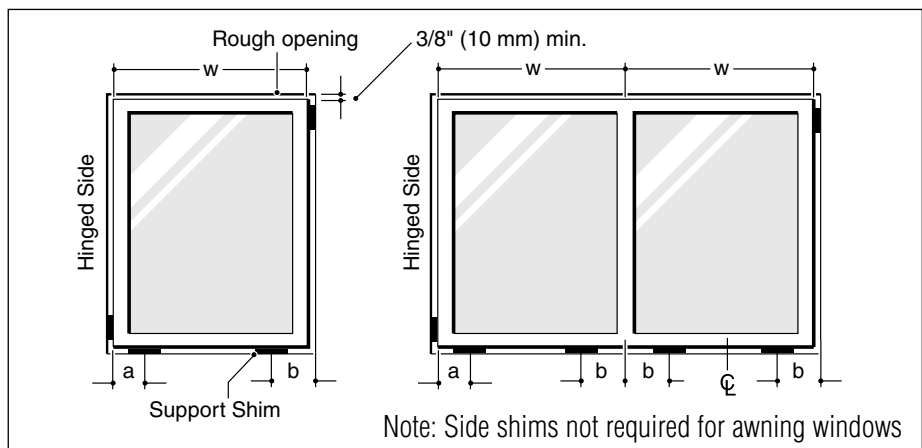

Figure 3-2. Where to put the support shims
- 2.4 Shim sill of window 2" from the corners and on both sides of any mullions with 4" x 1 1/2" shims (See fig. 3-2). **Adjust the height of the shims to obtain a level sill**, ensuring you have 3/8" gap at the head (inter-storey deflection not to exceed $\pm 3/8"$).